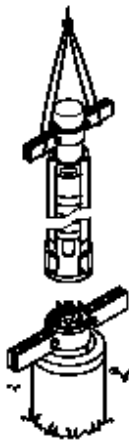

Fig. 3 Lifting the pump into position.
3. Lift the pump part by means of pipe clamps fitted to the extension pipe. see fig. 3.